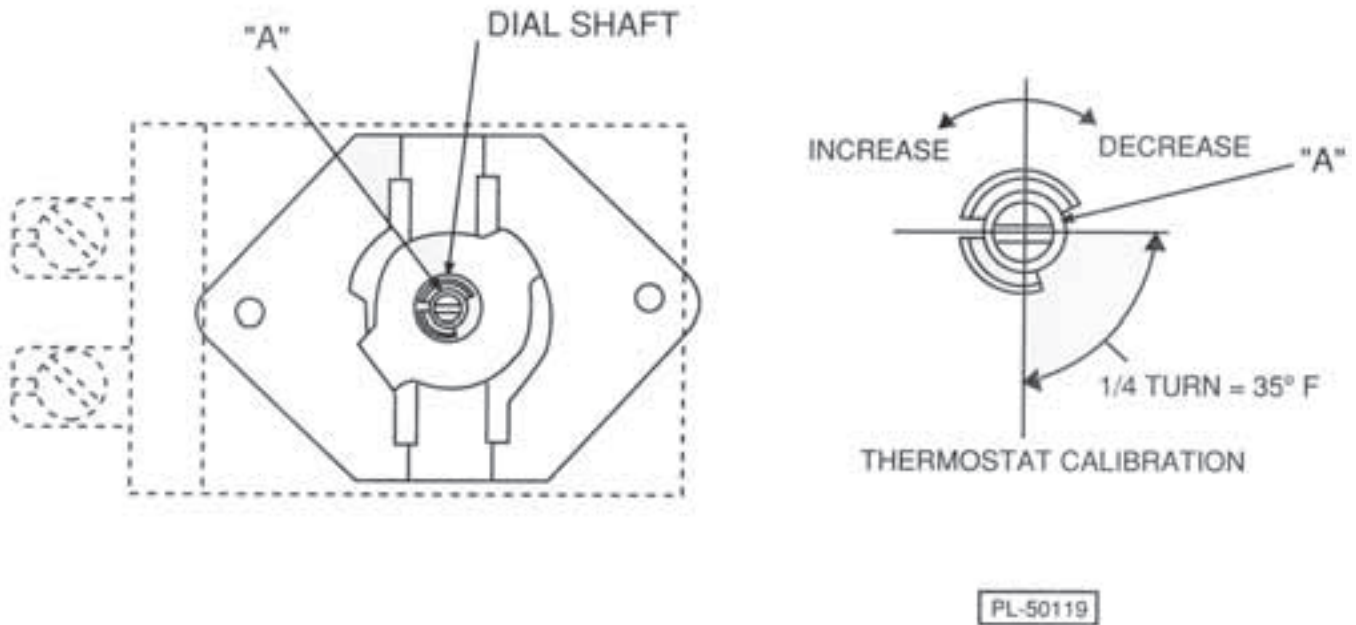

Fig. 6
1. Remove dial and push metal insert (Fig. 6).